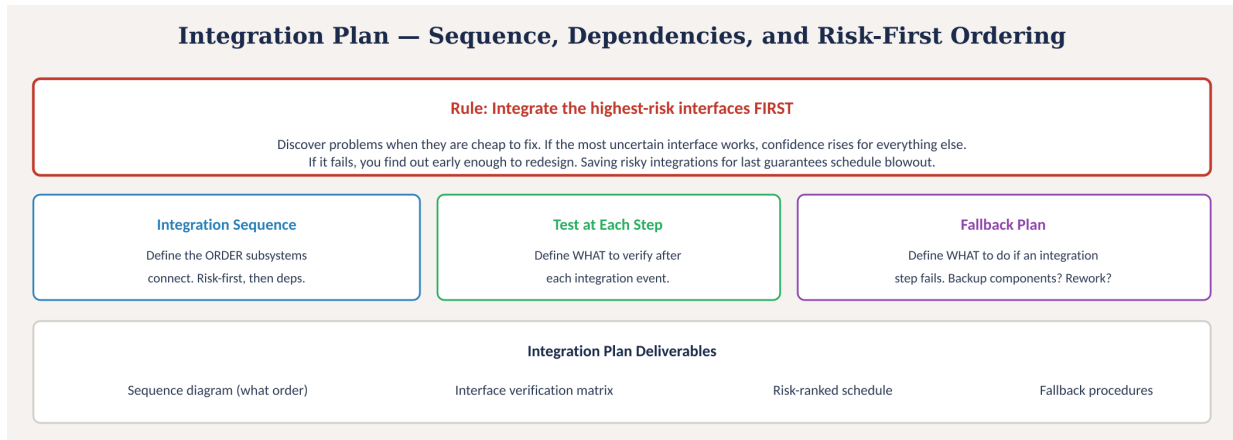

Figure 6.6: Integration sequence plan: power-first, risk-ordered subsystem build-up with test gates.
The order of integration matters (Figure 6.6). Rules: (1) Integrate power first; nothing works without power. (2) Add the lowest-risk subsystem next. (3) Add the highest-risk subsystem last (so problems are isolated to one new element). (4) Never add two new elements simultaneously (if something breaks, you cannot isolate the cause).